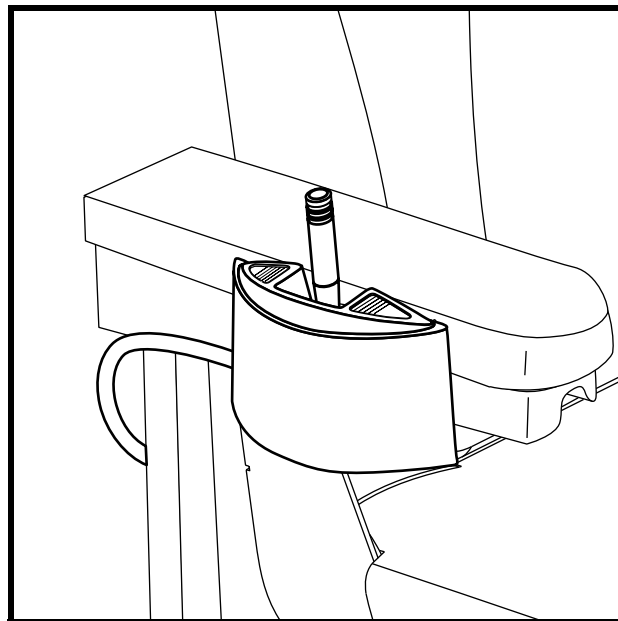

Figure 23. Power Seat Toggle Switch (Shown on Armrest)
1. Press forward on the toggle switch to raise the seat. See figure 23.